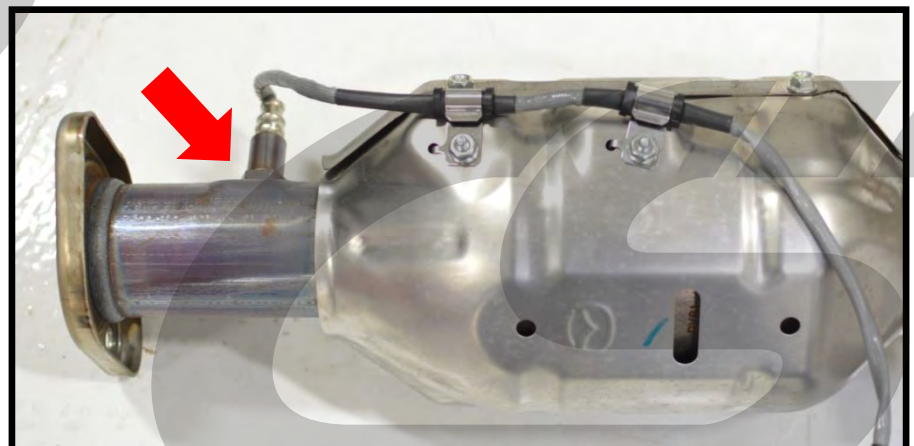

Figure 3e
- e) **Remove the o2 sensor harness from the metal clips fastened to the cat. Use a flat blade screw driver to pry open the clip and pull the harness free (Figure 3e).**